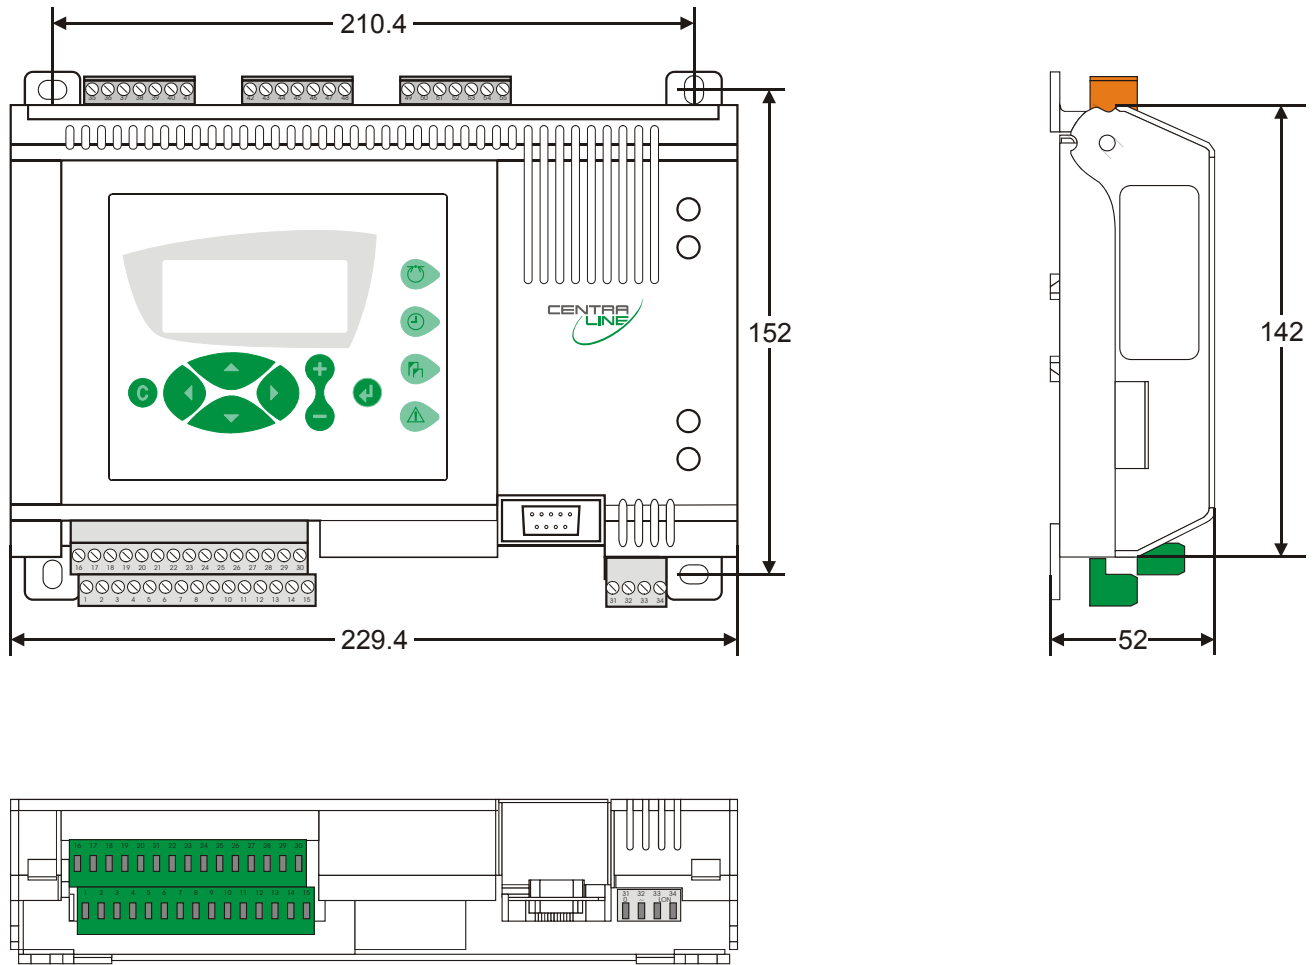

Fig. 9. Dimensions (in mm) and main hardware features of the two TIGER controllers
This LONWORKS terminal block is located on the right side of the front of the housing (see also Fig. 9 on page 8).
This power supply terminal block is located on the right side of the front of the housing (see also Fig. 9 on page 8).
The B-Port (an RS232 serial interface) is a 9-pin male sub-D terminal. The B-Port is located near the middle of the front of the housing (see also Fig. 9 on page 8).
3). The LONWORKS service LED and corresponding LONWORKS service button are located on the right side of the housing cover (see also Fig. 9 on page 8).